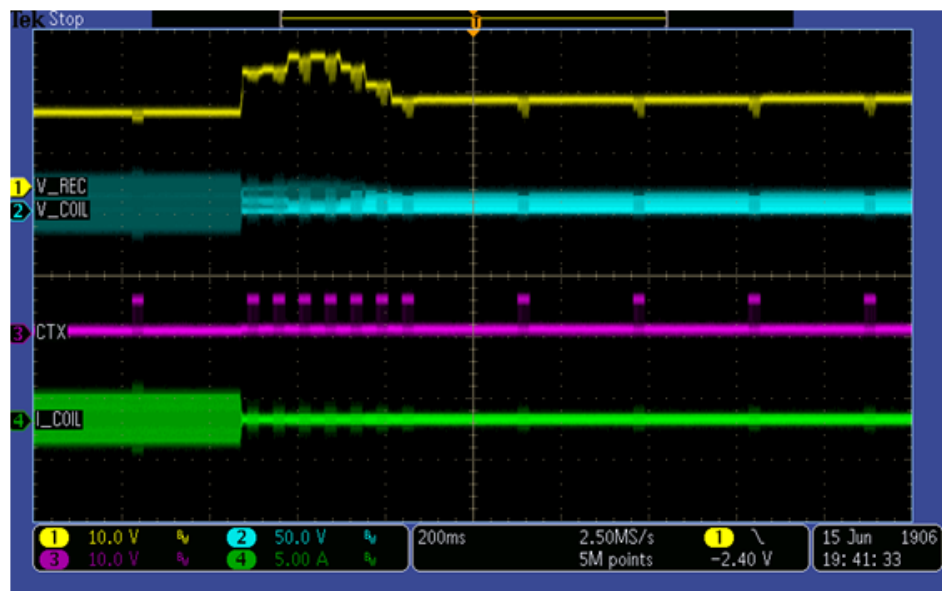

Figure 28. System response for reducing the load from 3 A to 0 A
4. System response measurement for reducing the load from 3 A to 0 A is shown in Figure 28.